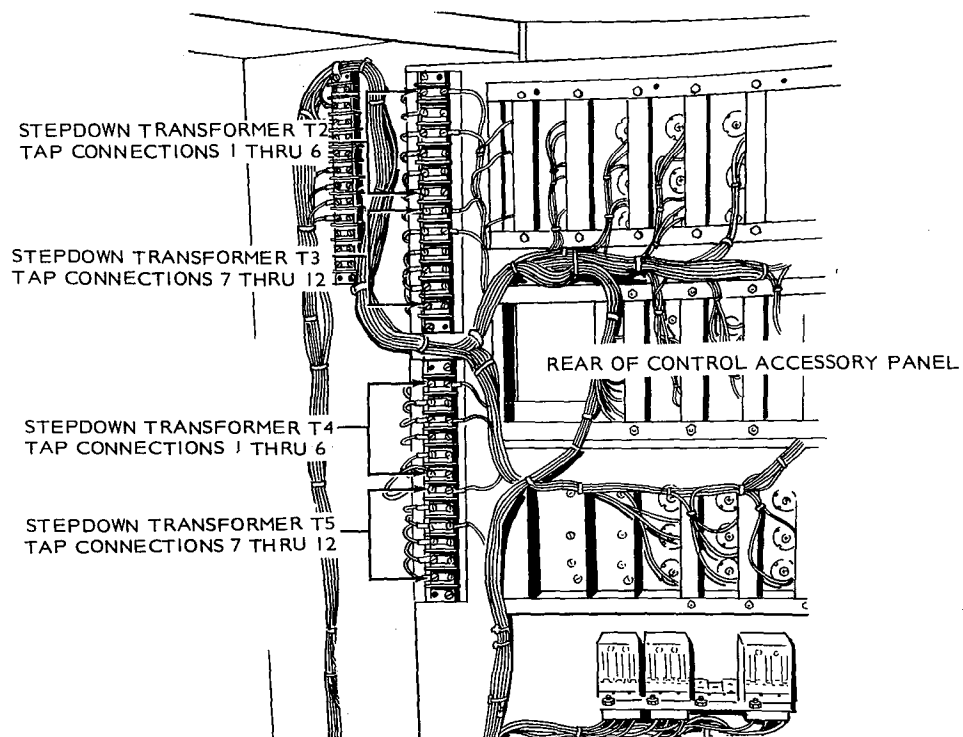

FIGURE 5. AC VOLTAGE CONNECTIONS FOR STEPDOWN TRANSFORMERS
5. Rewire the stepdown transformers T2, T3, T4, and T5 using the wiring diagram furnished with the control accessory panel. Change the wire lead connections on the right side (facing panel rear) of the terminal strip for the transformers. See Figure 5.